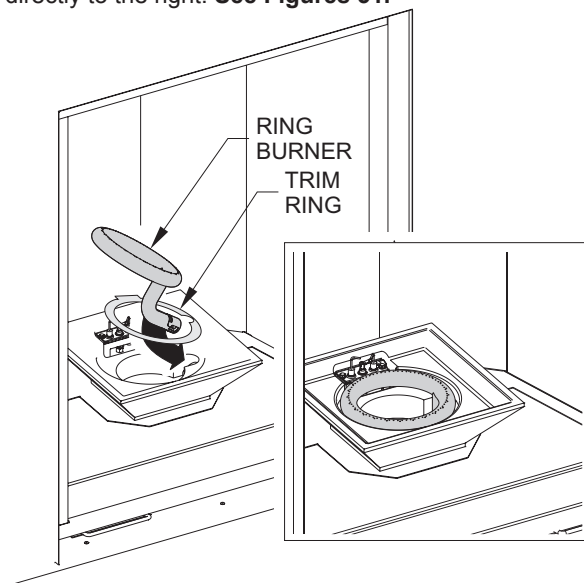

Figure 51
5. Insert Trim Ring and Ring Burner into Media Vessel. Look through the perforated floor material to fit the air shutter over the orifice holder. The Ring Burner air shutter will point directly to the right. See **Figures 51**.